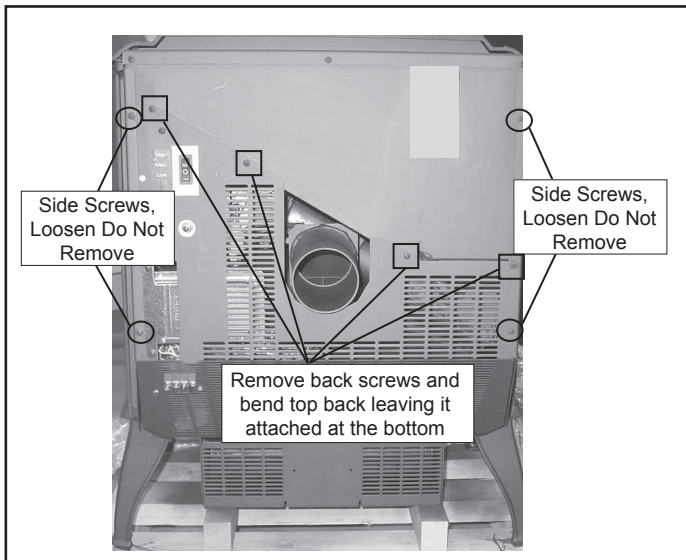

Figure 34.1
- Remove 4 screws from the back screen and pivot the top of the screen toward you leaving the bottom attached to stove. **Figure 34.1.**